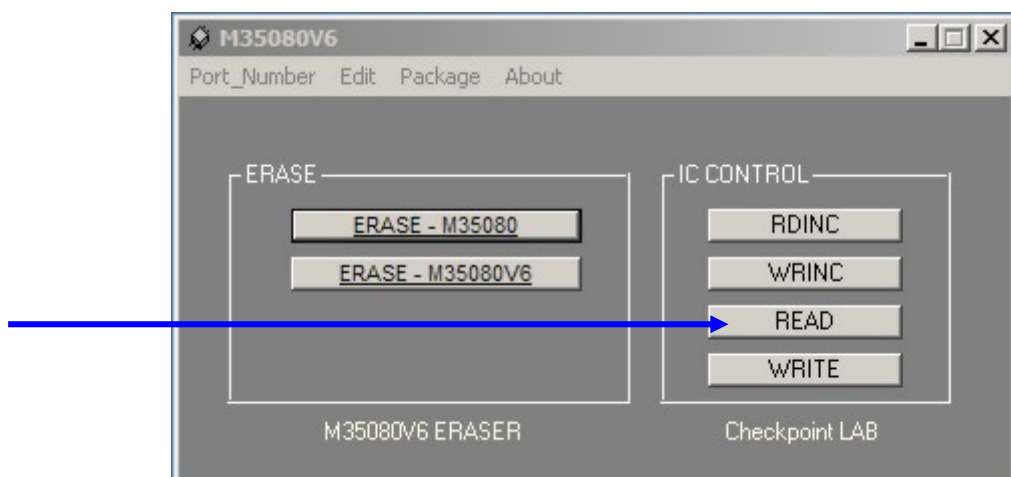

Figure 12.
Step 5: To make backup copy of the original data click “READ” button (section 4.1; Figure 12)